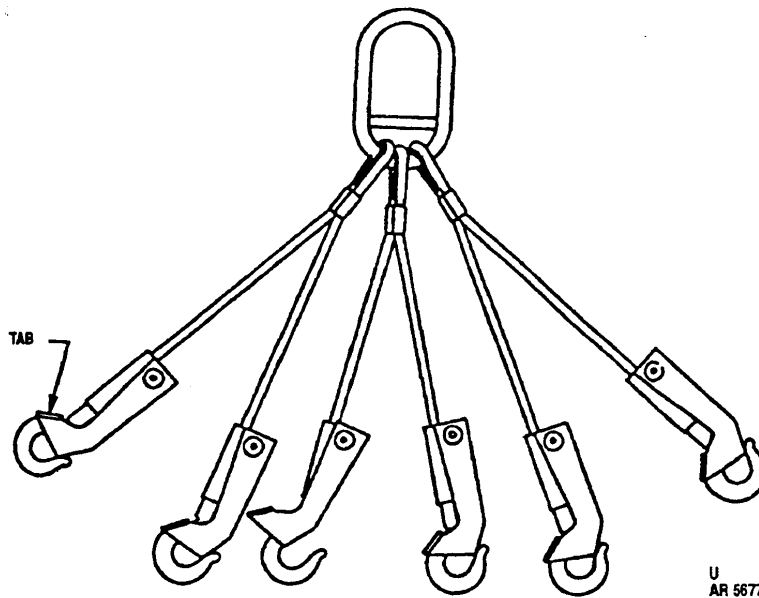

Figure G-1. Six Legged Sling, Palletized Projectile.
G.1.1 A series of slings and beams specifically designed to handle palletized heavy projectiles has been added to the IDS, IGS, Ammunition Tool Set (NSN 4940-00-322-6058). These items are illustrated in figures G-1 through G-6.